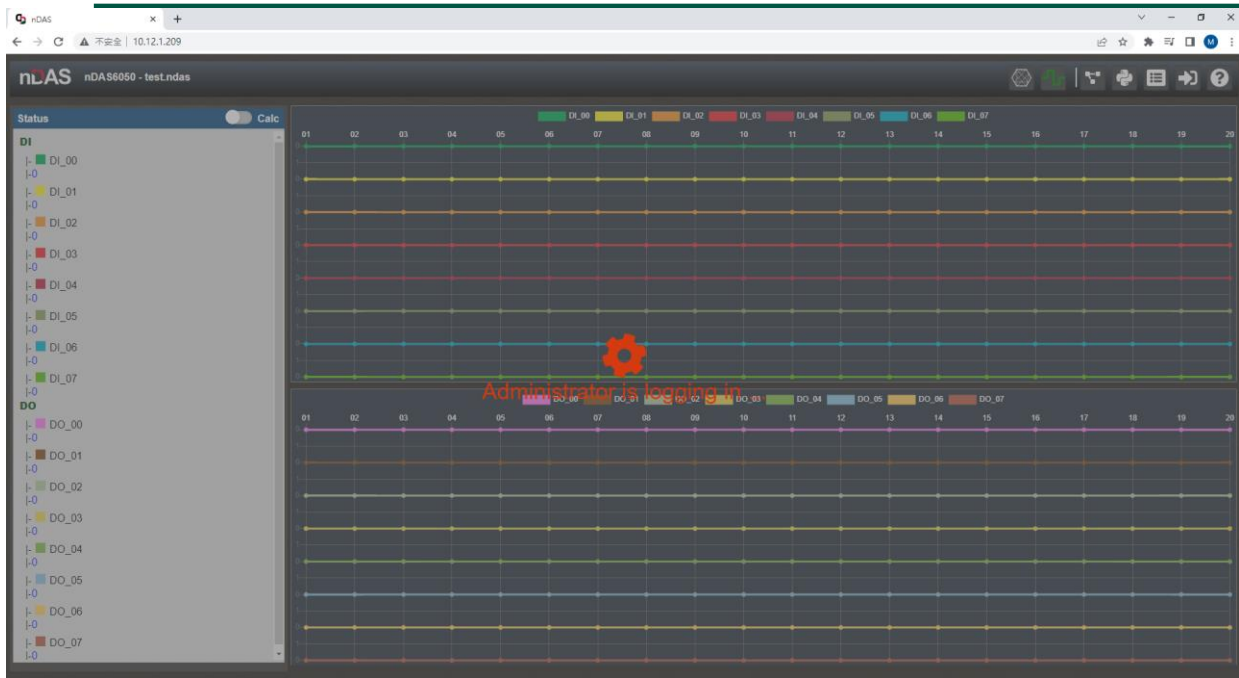

Figure 2-26 Display logging in status
**Note :** When an administrator login, the software interface will display “logging in” (as shown in Figure 2-26). To force a login, click anywhere on the screen (as shown in Figure 2-27), and a login dialog will appear (as shown in Figure 2-28). If the login is successful, the perviously logged-in administrator will be forced to logout.